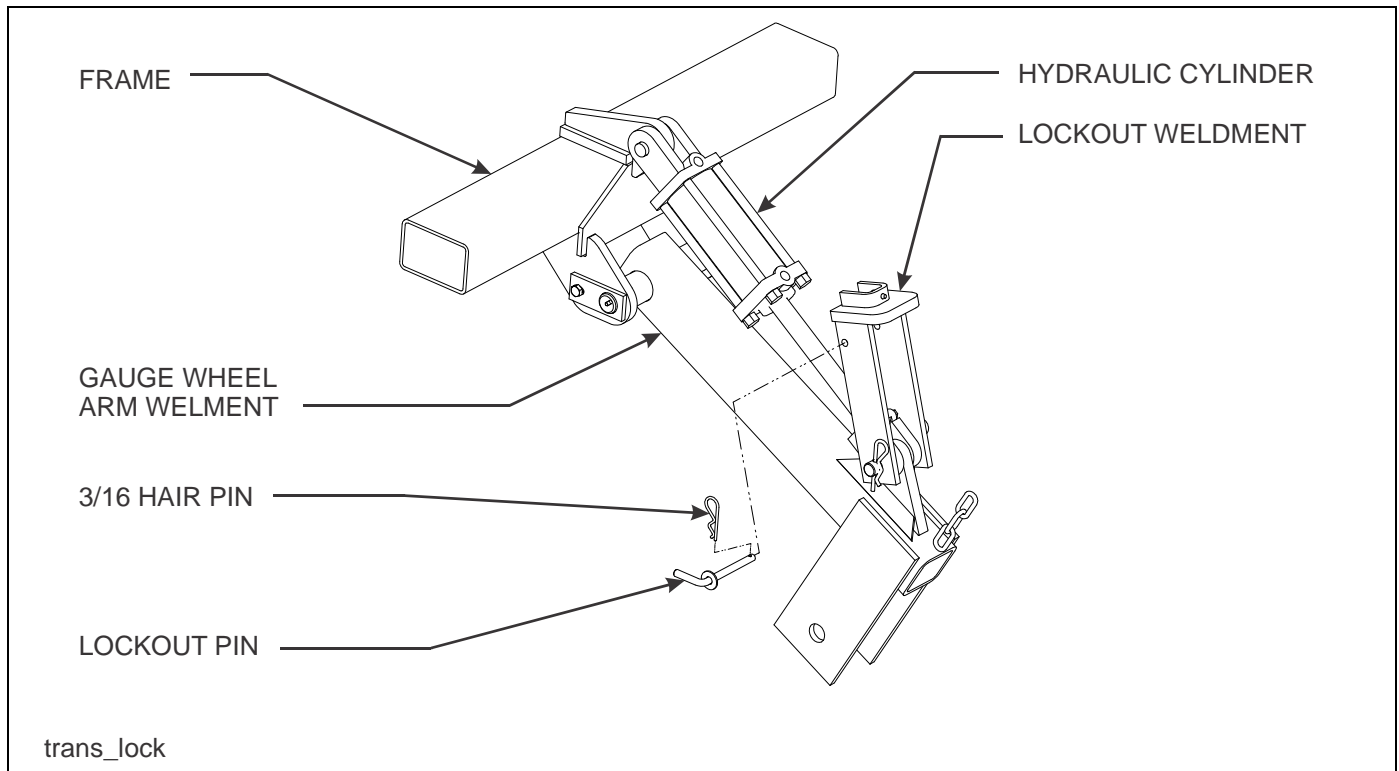

Figure 4-2: Transport Locks
3. Fully extend the hydraulic gauge wheel cylinders, and place the cylinder lockouts in the transport lock position over the cylinder rods. Secure the lockouts with the lockout pins (**See Figure 4-2.**)